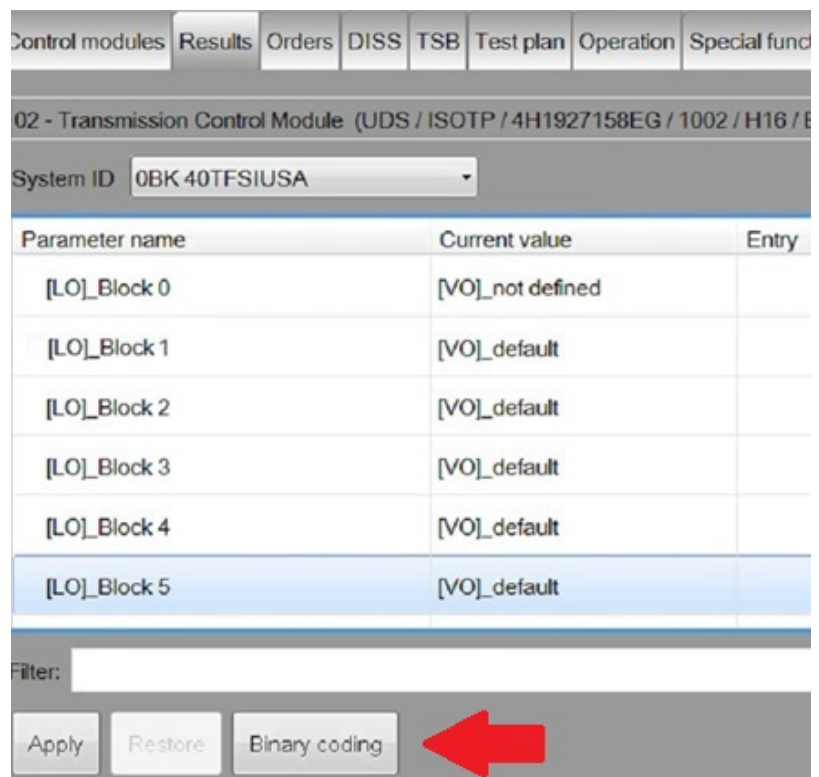

Figure 4. Coding menu
7. The coding menu will be displayed. Highlight "[LO]_Block 5", then select "Binary coding" (Figure 4).